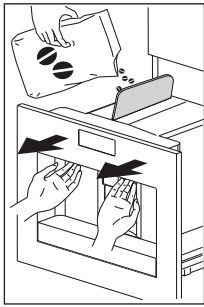

Fig. 14
- ▶ Extract the machine by pulling it outwards using the handles (Fig. 14).